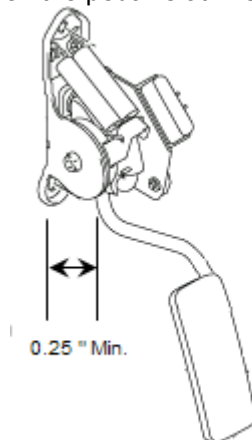

Figure 1 - Minimum Pedal to Bracket Clearance
- A mechanical Wide Open Throttle/"WOT" accelerator pedal travel stop is installed in the floor and/or carpet of the vehicle as delivered from the manufacturer. If this stop is removed for any reason, such as removing the carpet for use in a race vehicle, the user must ensure that a stop of some sort is fabricated and installed. This stop must be fabricated such that there is a minimum clearance of 0.250 inches between the accelerator pedal mounting bracket and the accelerator pedal actuating rod when the pedal is at WOT. See *Figure 1*.